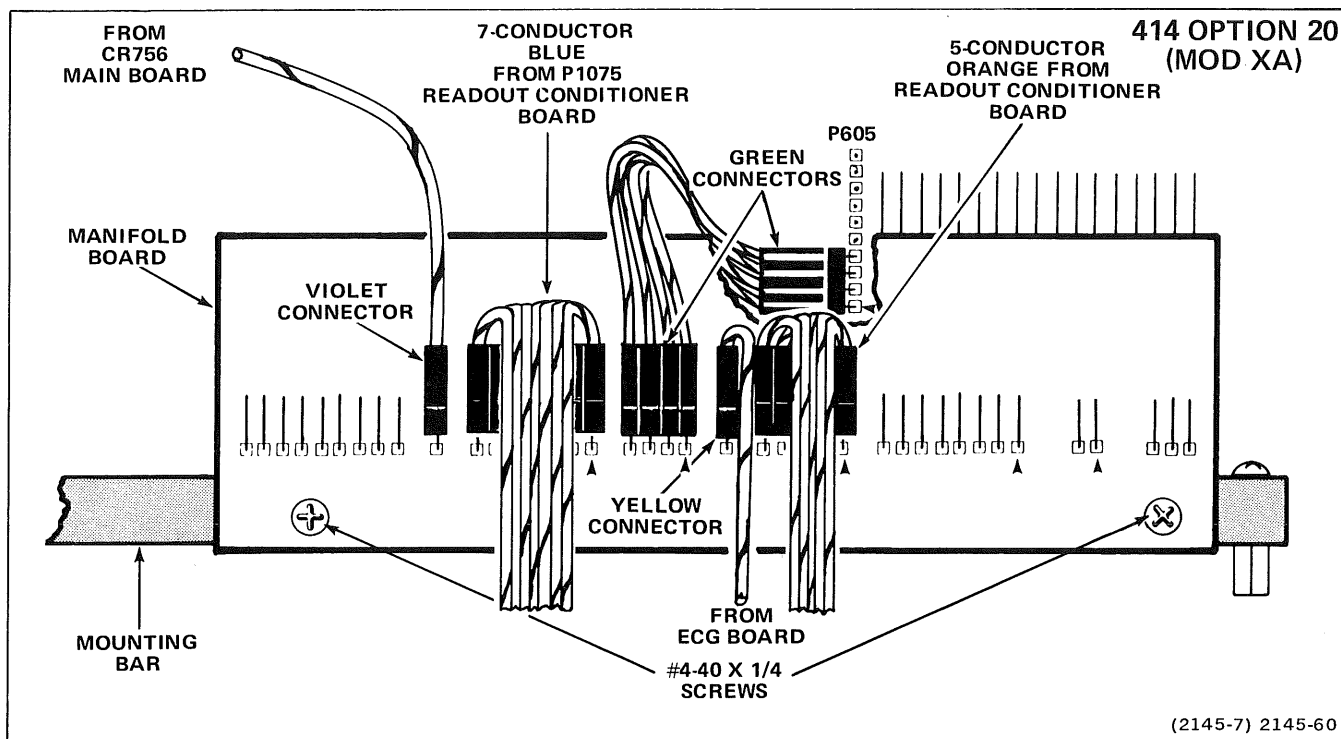

Figure 1-26. Installing Manifold Board and connecting cables in 414 Option 20 (MOD XA).
6. Connect four-wire cable with green connector to P605, install Manifold Board and connect remaining cables. See Figure 1-26.